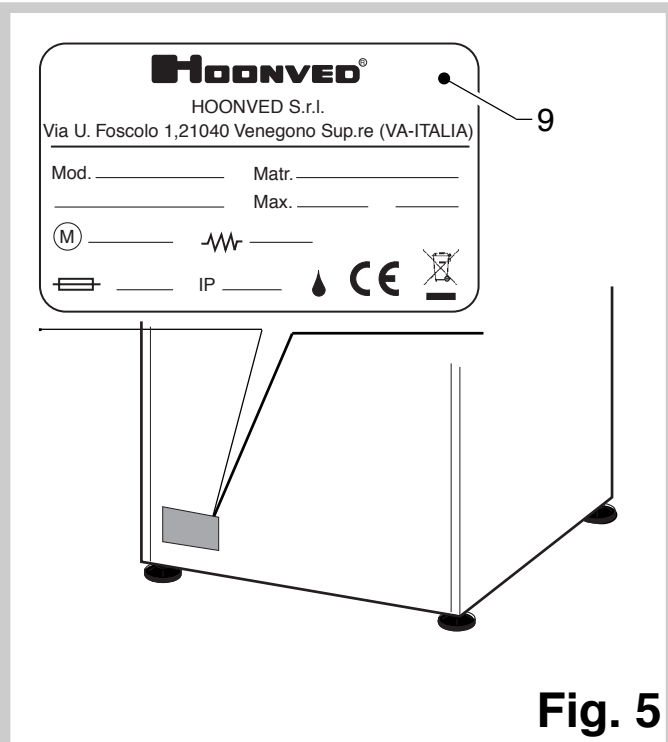

Fig. 5
- **Before connecting to the electricity main, always check that the data pertaining to the power source correspond to those indicated on the identification plate (pos. 9 Fig. 5) and that the main electric power switch installed prior to the machine is disconnected "0" OFF.**
- Connect the electrical power cable (14) to the main switch installed prior to the machine.
- Connect the equipotential ground conductor to the terminal (15).